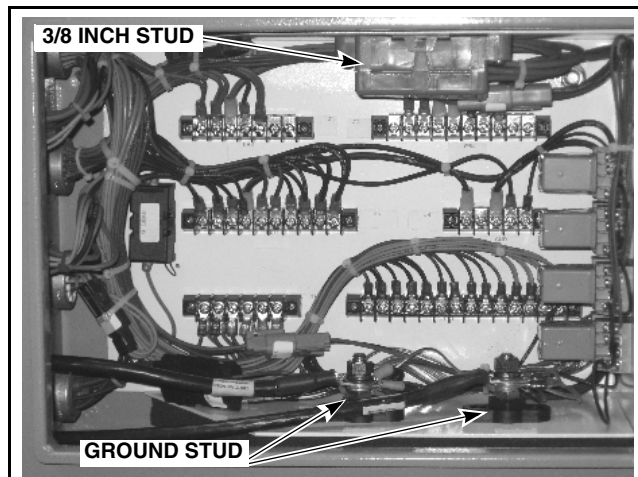

Figure 2.05-1 Power Distribution Junction Box (Non Extender Series Engines)
5. Attach the power ring terminal to the positive 3/8 inch stud located under the red cover in the Power Distribution Junction Box (see Figure 2.05-1).